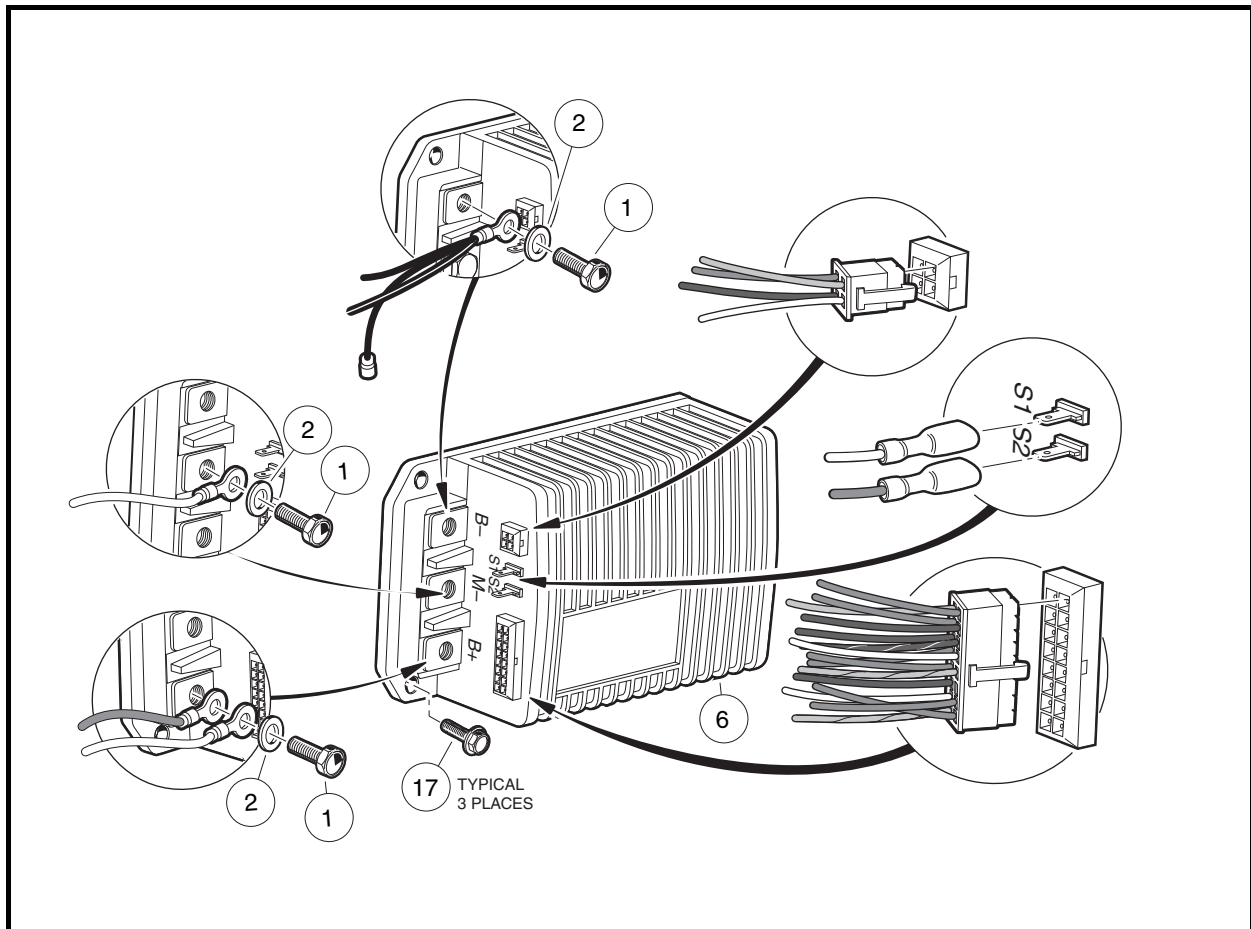

Figure 13-11 Speed Controller
4. Disconnect all wires and multi-pin connectors from the speed controller (**Figure 13-11, Page 13-12**).
- Remove the three self-tapping screws (17) that hold the controller (6) to the component mounting plate and remove the controller from the vehicle.
- Install the three self-tapping screws (17) that hold the controller (6) to the component mounting plate and tighten to 60 in-lb (6.8 N·m) (Figure 13-11, Page 13-12).
- Using the wiring diagram, install the multi-pin connectors and all wires as illustrated. See **Wiring Diagrams, Section 11, Page 11-2**. Tighten bolts (1) to 9 ft-lb (12.2 N·m) (Figure 13-11, Page 13-12).